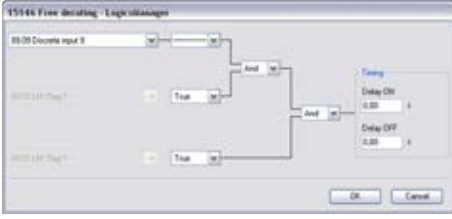

Fig. 202: LogicsManager function "Free derating"
- 3. Configure the LogicsManager function "Free derating" as shown in (Fig. 202) to enable derating of power if discrete input [DI 09] is energized.